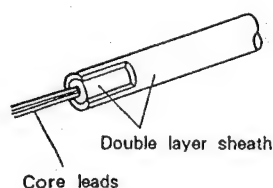

Fig. 9-2 Anode cable structure
- The anode cable structure is outlined in Fig. 9-2. Note that the sheath consists of two layers.